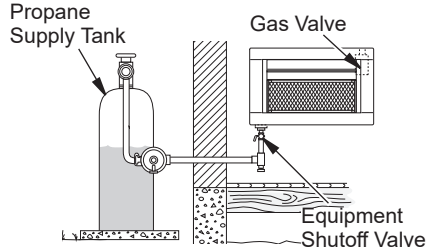

Figure 18 - Checking Gas Joints for Propane Gas
3. Check all joints from gas supply (see Figure 18 or 19) to equipment shutoff valve. Apply a noncorrosive leak detection fluid to all joints. Bubbles forming show a leak.
4. Check all joints from equipment shutoff valve to control valve (see Figure 18 or 19). Apply a noncorrosive leak detection fluid to all joints. Bubbles forming show a leak.